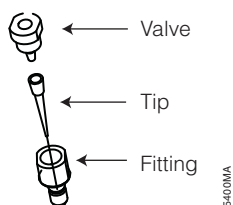

Figure 36. Injector Tip Assembly.
3. Twist the white tip valve counterclockwise to release it from the gray tube fitting. See Figure 36 for a picture of the white tip valve.